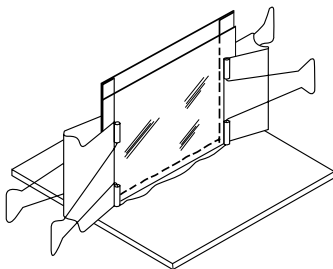

Figure 2. Sealing the Gel Plate Assembly with Agarose.
3. Clamp the assembly together with a spring clip (available separately) at each short edge over the spacers (figure 2). Push the spring clips to the bottom of the assembly so it will stand upright.
6. On the surface of a glass support plate, apply a straight line of molten agarose 10 cm long. Immediately place the glass plate assembly upright on the line of agarose (figure 2). By capillary action, the agarose will form a plug to seal the bottom of the glass plate assembly. Allow the agarose to solidify for 5 to 10 min before proceeding.